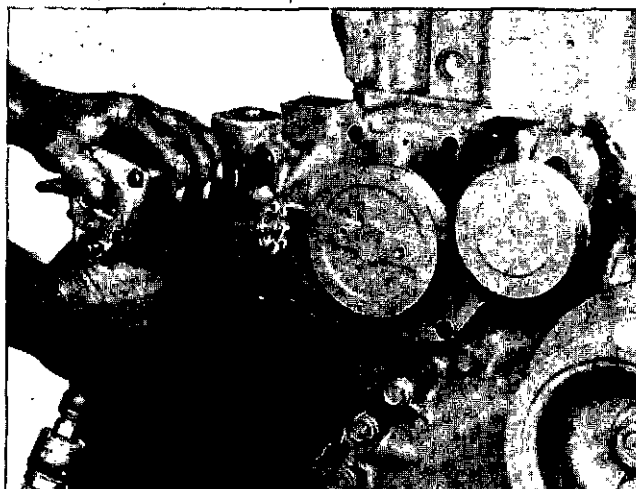

Fig. 0-31. Remove The Capscrews From the Water Pump.
8. Remove the capscrews and lockwashers that hold the water pump body to the cylinder block, Fig. 0-31.